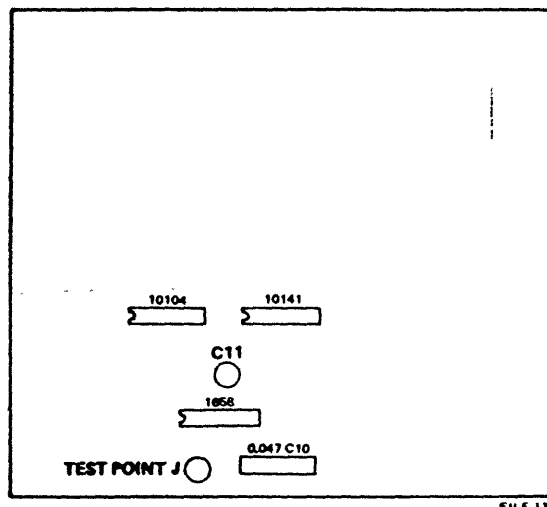

Figure 20-11. PLO PCBA Test Points
- e. With an oscilloscope set at 100 mV per division, monitor TPJ on the PLO PCBA (Figure 20-11). Sync on INDEX (pin 7 on the extender board).